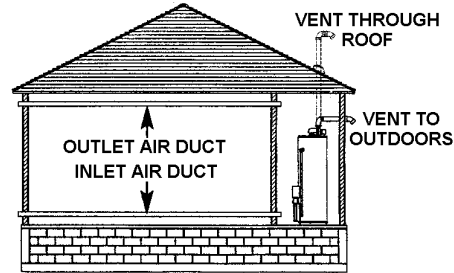

FIGURE 14.
3. When communicating with the outdoors through horizontal ducts, each opening shall have a minimum free area of 1 square inch per 2,000 Btu per hour (11 cm2/kW) of total input rating of all equipment in the enclosure, see Figure 14.
4. When ducts are used, they shall be of the same cross-sectional area as the free area of the openings to which they connect. The minimum short side dimension of rectangular air ducts shall not be less than 3 inches (7.6 cm), see Figure 14.